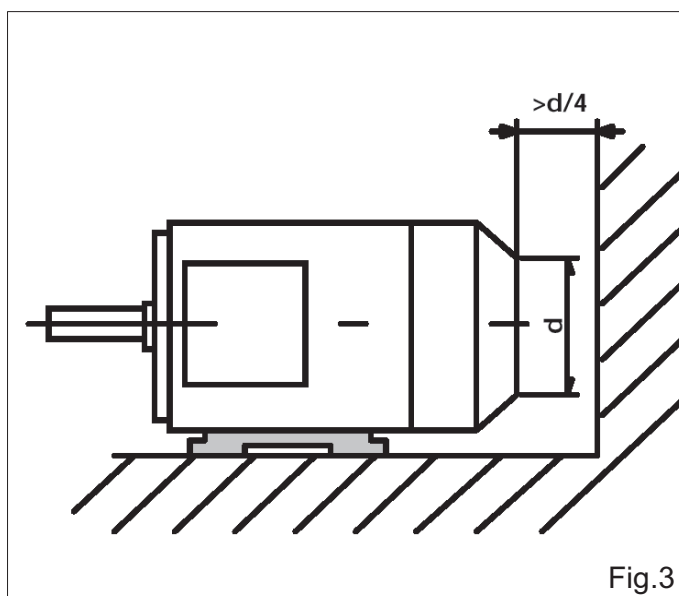

Fig.3
- In the final operating situation, there must be sufficient free space around the fan to allow good air intake (see figure 3).